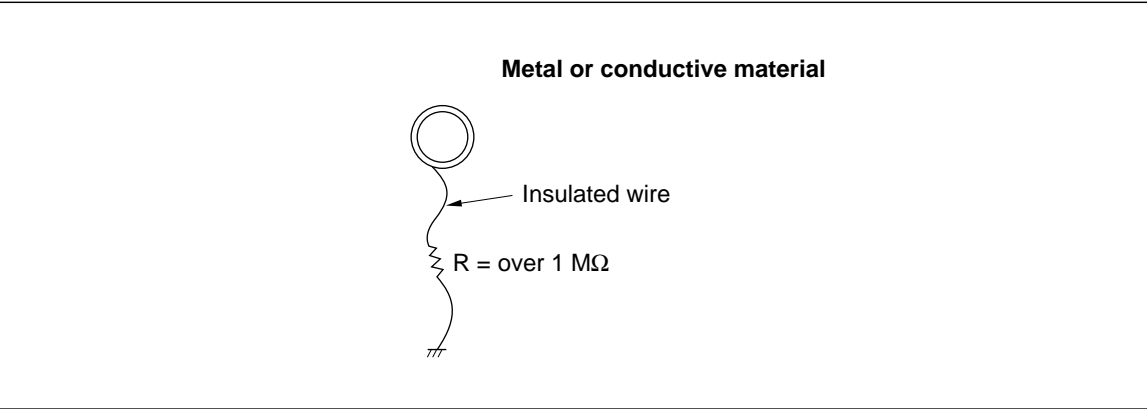

Figure 2 Personal Ground
3. Personnel should wear grounding bracelets on their arms or legs. To prevent electric shocks, insert a resistor of $1 \text{ M}\Omega$ or greater in series as shown in figure 2.